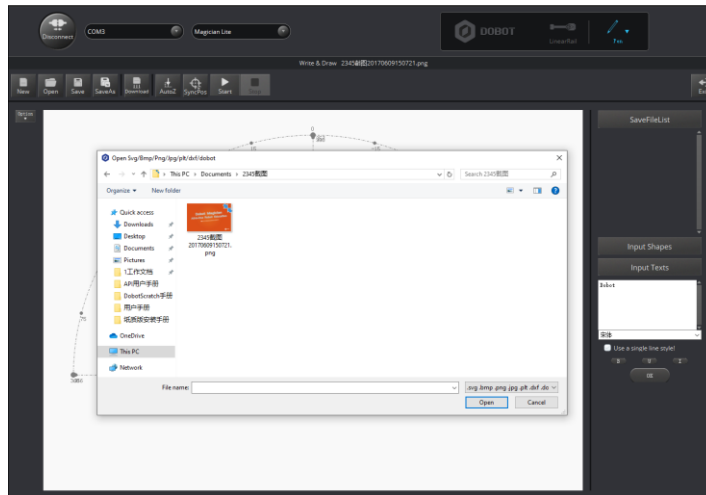
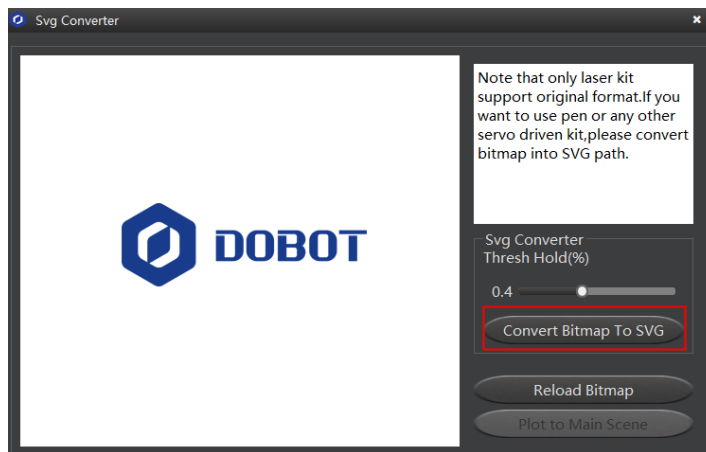

Figure 5.46 Import an image
Figure 5.47 Convert an image to SVG
- Click **Open** to import an image file such as BMP, JPEG, or PNG to convert this image to its corresponding SVG file that the DobotStudio supports, as shown in Figure 5.46. Once this image is imported, the **SVG Converter** dialog box is displayed, as shown in Figure 5.47. In this dialog box, drag the slider to set the black and white threshold, and click **Convert Bitmap To SVG** to perform the conversion, and then click **Plot to Main Scene** to display the converted SVG file on the annular area of the **Write & Draw** page.